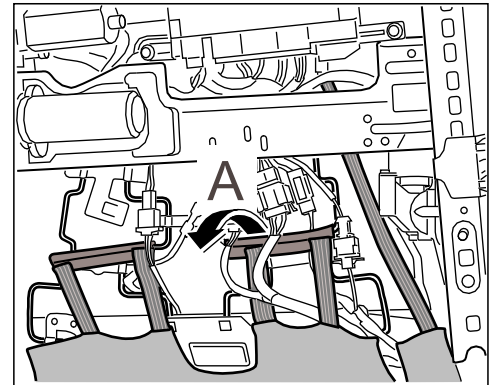

Figure 1
- 2.1 Disengage the right tensioning strap of the backrest cover (⇒ *Figure 1 -Arrow A-*).